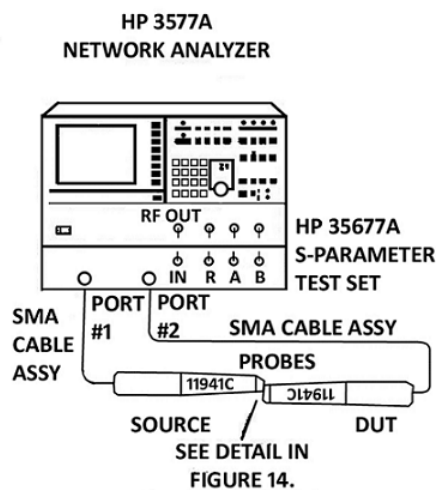

Figure 12. Insertion Loss Test Setup
The insertion loss test is a relative indicator of damage in the input circuitry. Using a second Cokeva 11941C as a magnetic field source, this test selectively injects a magnetic field into each loop of the Cokeva 11941C being tested. Damage is indicated by differences in the measured output voltages. It is important to orient the two probes properly as shown in Figures 12 through 15. To facilitate testing, the source probe should be fixed in place, the tip flush with the work surface (preferably wooden). This can be accomplished with clamps or tape, which should be no closer than 50.8 mm (2 in.) to the source tip. Other test equipment may be substituted if it meets or exceeds the critical specifications for the instruments listed below. Throughout the test procedure, the probe being tested will be referred to as the DUT (Device Under Test).
1. Connect the equipment as shown in Figure 12. Allow the HP 3577A 60 minutes of warm-up time.